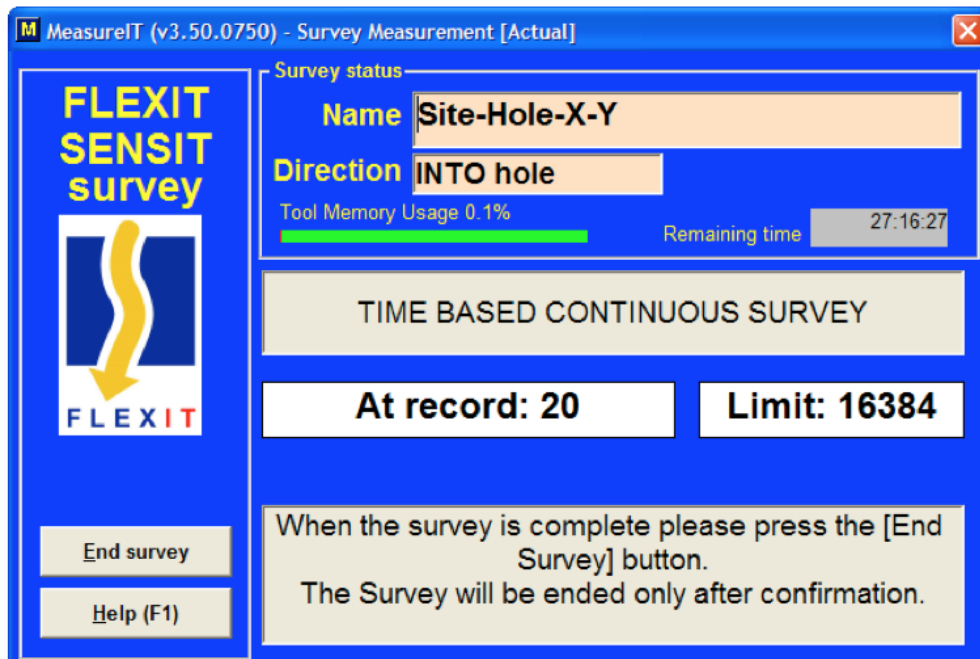

Figure 8 Real-time measurement status screen
- b. Once the survey has started, the window will appear as in **Figure 8**.
1. After receiving the tool from the CT's, unload the tool from its brass pressure case and keep it within a 5 meter line-of-sight of the TransIT adapter to the computer. Return to the measurement screen (**Figure 8**) and click **End Survey**. An option to download the data follows.